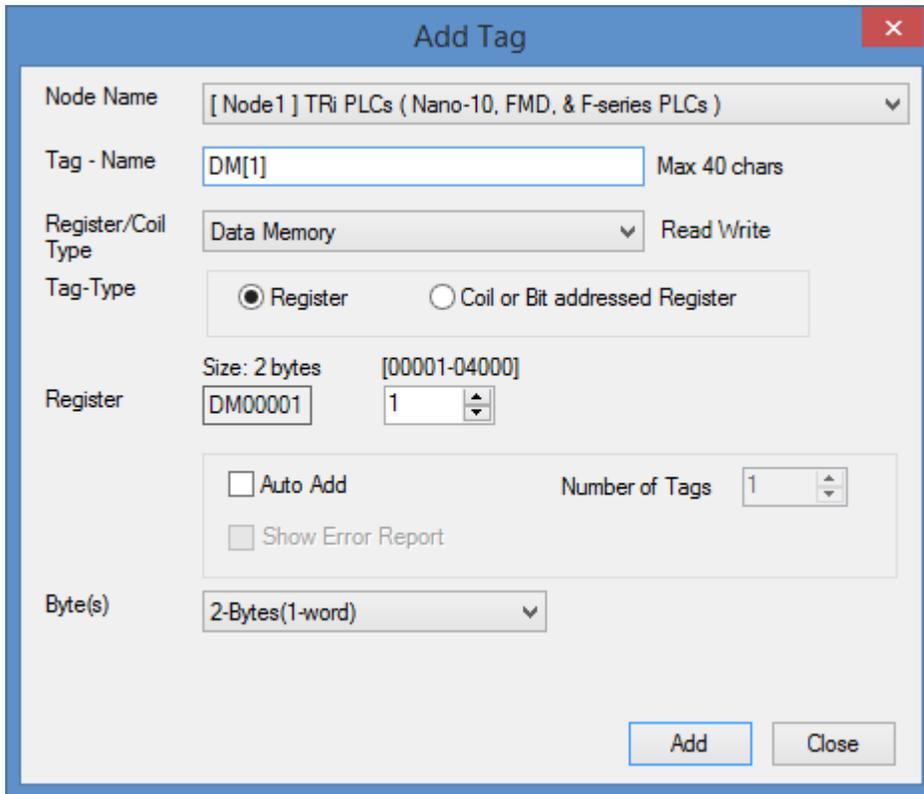

Figure 4: Tag Configuration Window- Create DM[1] Variable
1. Select from the “Register/Coil Type” the drop down menu. As shown in Figure 4, Data Memory is chosen for this example.
3. Change the tag name to anything. DM[1] was used in Figure 4.